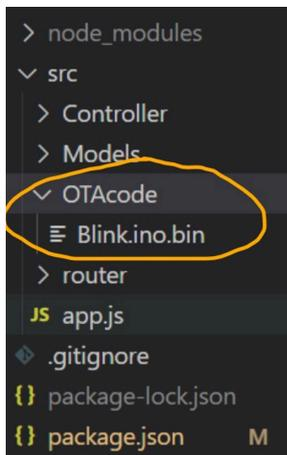

Fig 2.4: Updated code in the server for OTA
- Whenever firmware needs to be updated it is put in the server manually by the developers. It is found inside a folder called OTACode as shown in the figure 2.4.